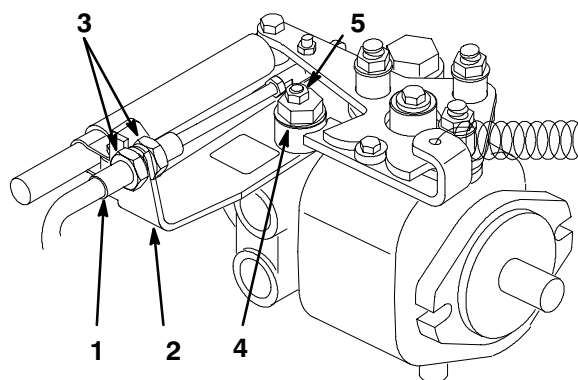

Figure 40
- A. Loosen both jam nuts securing the traction control cable to the bulkhead on the hydrostat (Fig. 40). Make sure the jam nuts are loosened equally and sufficiently to allow adjustment.
- B. Loosen the nut securing the eccentric to the top of the hydrostat (Fig. 40).
- D. Rotate the eccentric until creep does not occur in either direction. When the wheel stops rotating, tighten the nut locking the eccentric and the adjustment (Fig. 40). Verify the adjustment with the throttle in the Slow and Fast position.
- E. From each side of the bulkhead, tighten the locknuts **evenly**, securing the traction cable to the bulkhead (Fig. 40). Do not twist the cable.